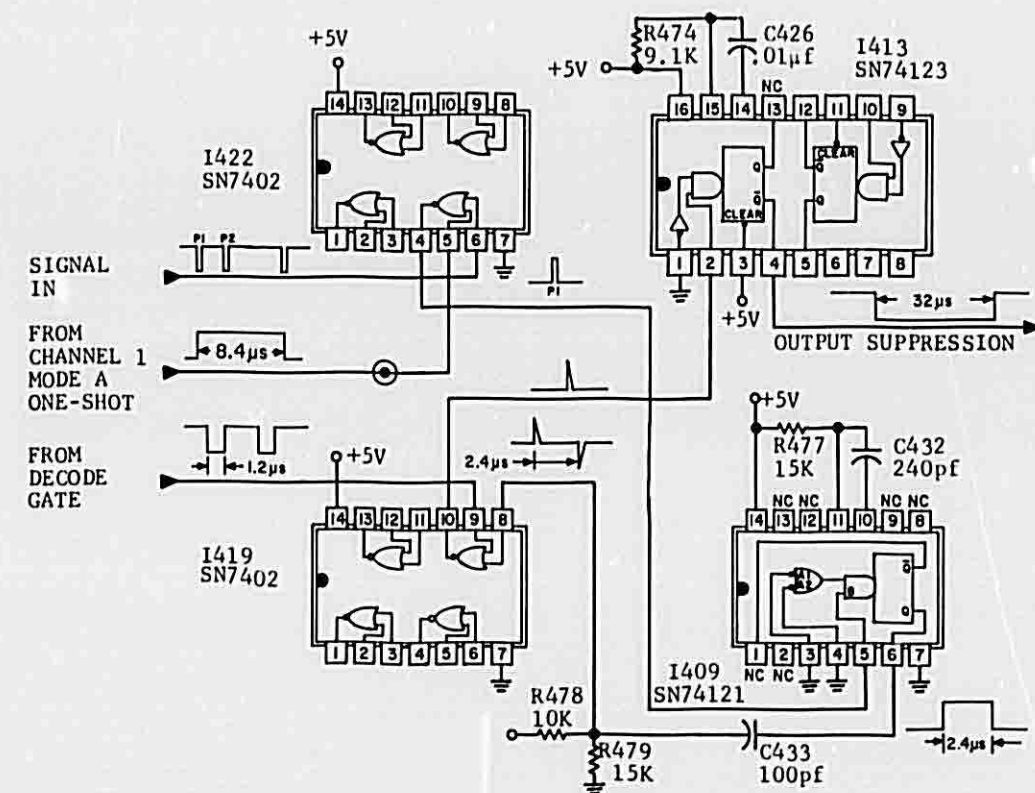

FIGURE 4-25 P2 COINCIDENCE AND SLS CIRCUIT (Dwg. No. 696-3035-00)
4.3.8 DECODE GATE GENERATOR (See Figure 4-25)
The function of the P2 Coincidence and SLS Circuit (Figure 4-25) is to detect the presence of the P2 pulse and if detected, signal the suppression gate to inhibit P3 detection. The signal enters this circuit as follows. A negative P1 appears at one input to the NOR gate I422, at the same time that the second input is going positive. The output of this NOR gate is P1 only, since the second input goes high for 8.4μsec. In this way the 2.4μsec one-shot I409, is triggered by P1 and not retriggered by P2. The output of the 2.4μsec one-shot is differentiated by C433 and R479, then input to a NOR gate I419. The second input is from the 1.2μsec Decode Gate Generator and if P2 is present it will be LO when the 2.4μsec one-shot falls. An output from I419 indicates P2 detection and is used to trigger I413, which is a 32μsec one-shot. The Q output goes LO and closes the Suppression Gate.